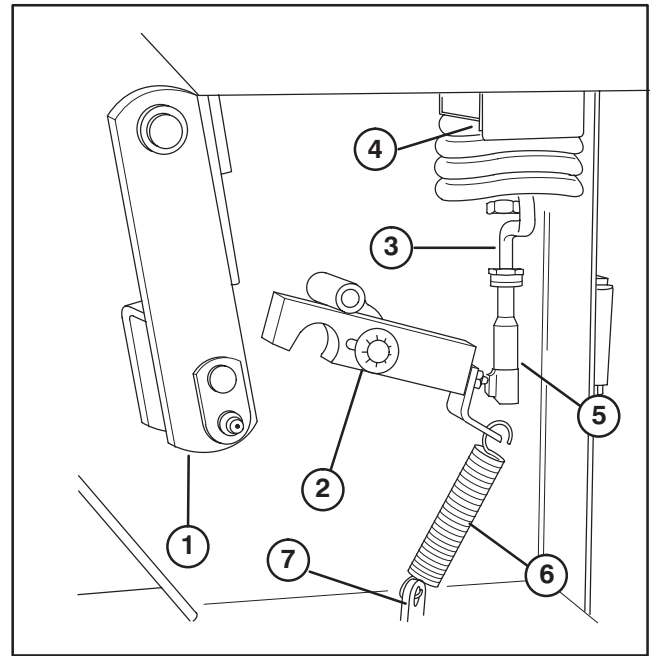

Figure 44
- A. Unlock ball joint from latch ball (Fig. 44).
IMPORTANT: Make sure rod is positioned squarely as shown in Fig. 44.
Note: Make sure there is no tension on return spring when rod is in the disengaged (down) position. Loosen spring bracket capscrew and rotate bracket in or out until spring tension is relieved on spring. Tighten capscrew. Spring is to be hooked on latch from inside out as shown in Fig. 44.